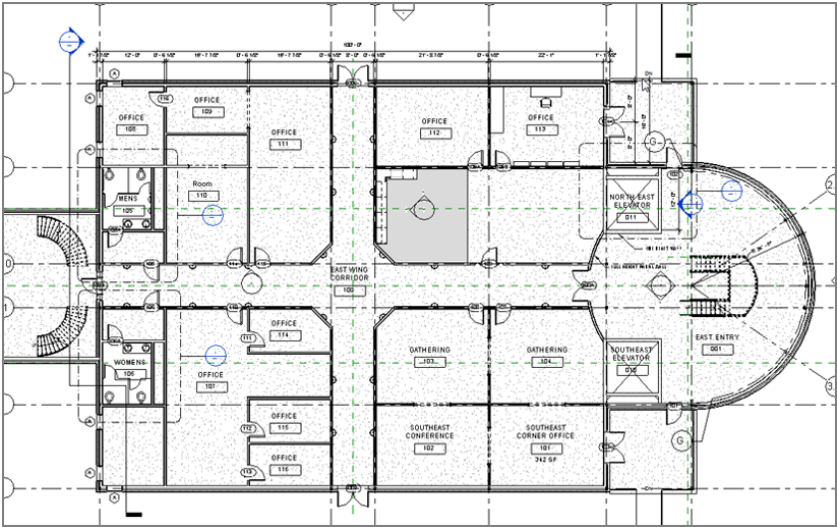

FIGURE 15.5: Adding rooms to the remainder of the spaces
6. Add rooms to the rest of the vacant areas, renaming them all **OFFICE**. (Skip the kitchen area and the room to the right of it, as shown in Figure 15.5.)